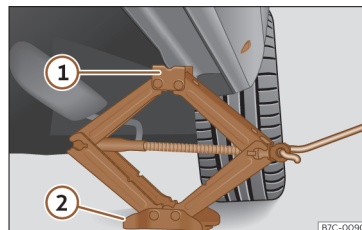

Fig. 36 Cross member: positioning the jack on the vehicle.
- Turn the jack crank handle, located below the strut support point, to raise it until the tab **1** >>> **Fig. 36** is below the housing provided.